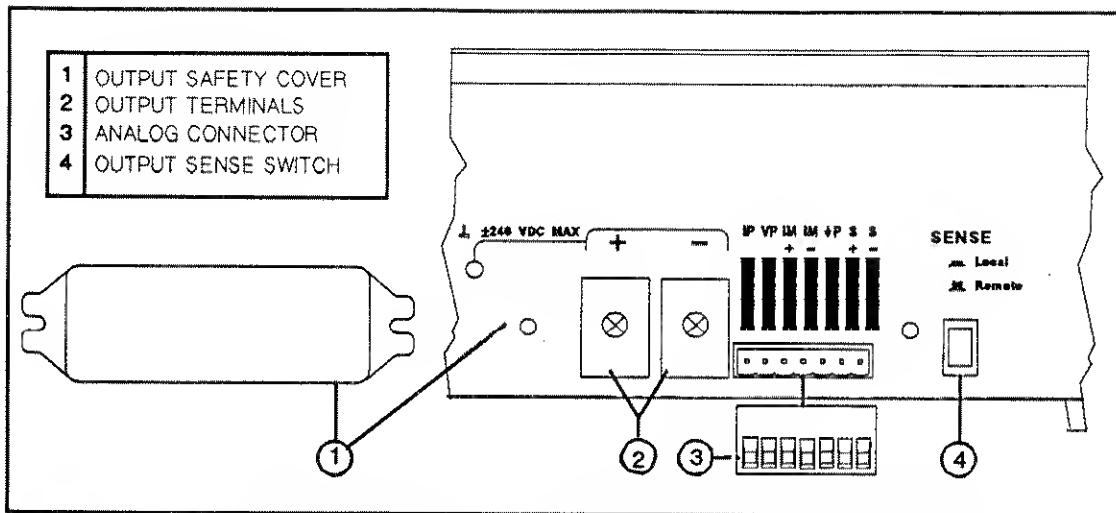
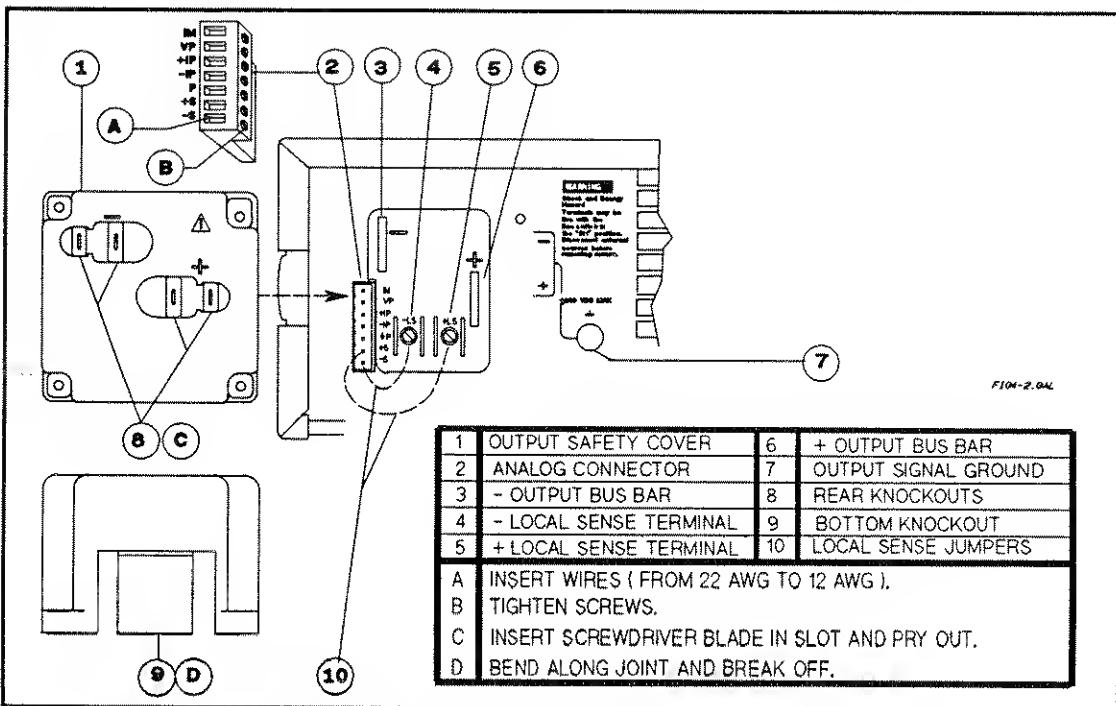

Figure 4-1. Series 654xA and 655xA Rear Panel Connections
Figure 4-2. Series 657xA Rear Panel Connections
The + and - load connections are made at the rear panel. Depending on the model (see Figure 4-1 or Figure 4-2), either terminals or screw-down bus bars (+ and -) connect the load to the power supply. The general procedure is as follows:
- make a suitable opening in the output safety cover by removing one or more cover knockouts (see Figure 4-2)
Local sensing is obtained by placing the SENSE switch (see Figure 4-1) in the Local position. The power supply is shipped with the switch in this position.
Remote sensing is obtained by placing the SENSE switch (see Figure 4-1) in the Lemote position. The power supply is shipped with the switch in the Local position.